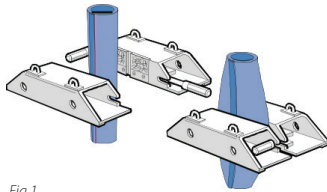

Fig 1
The general appearance and method of use is illustrated in the Fig. 1.
- 5.4.2.2 Position the clamp as shown in Fig. 1 ensuring:-